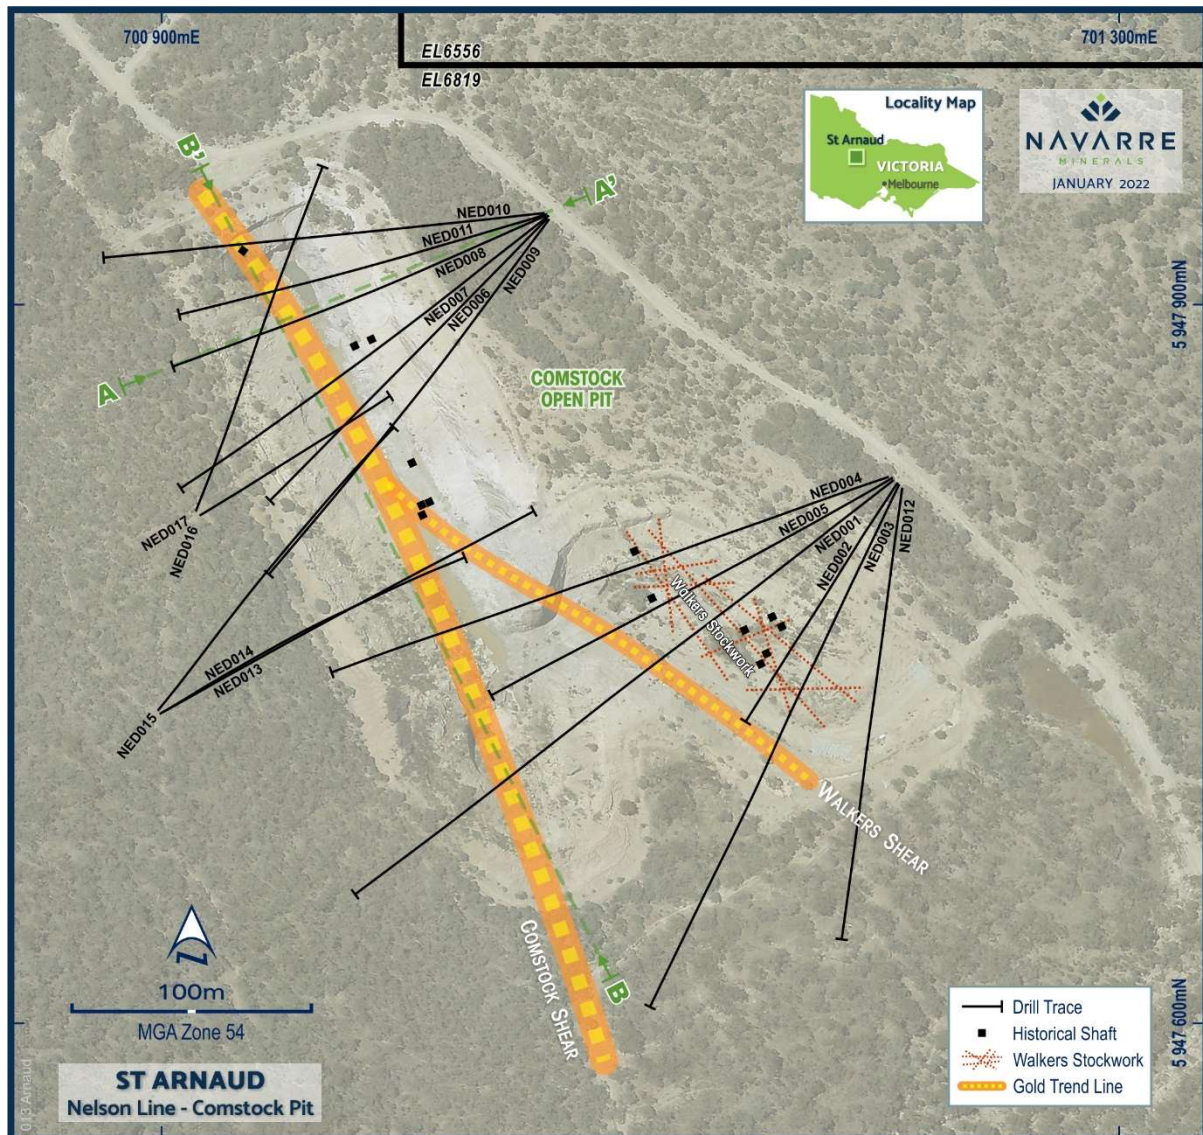

Figure 4: Comstock Pit – Location of diamond core drilling and simplified geology.
The drilling has intersected two main mineralised quartz-sulphide bearing structures containing broad zones of irregularly distributed low to medium grade gold, silver and arsenic assays and rare visible gold (Figure 4).
Navarre has received assay results for all seventeen holes of the diamond core drilling program. This drilling has intersected two main quartz reef structures (Comstock and Walkers), lesser mineralised shears and associated quartz stockwork zones (refer Figures 4 - 6):
- **Comstock Shear** – a variably 1 to 20-metre-wide northwest-trending mineralised quartz reef structure. Historically this reef was mined in the Comstock open pit over a strike extent of 330 metres. This is the most continuous structure intersected in the drilling program. The structure contains zones of strong sulphide mineralisation in the form of arsenopyrite, pyrite $\pm$ galena $\pm$ sphalerite (strong pathfinder elements in most Victorian gold deposits). This shear has been confirmed by drilling over a 260 metre strike extent and to approximately 200 metres depth. The structure remains open along strike and at depth (Figure 4).
Significant diamond core drilling intercepts from the Nelson Line include (see Tables 1 & 2; Figures 4 - 6):